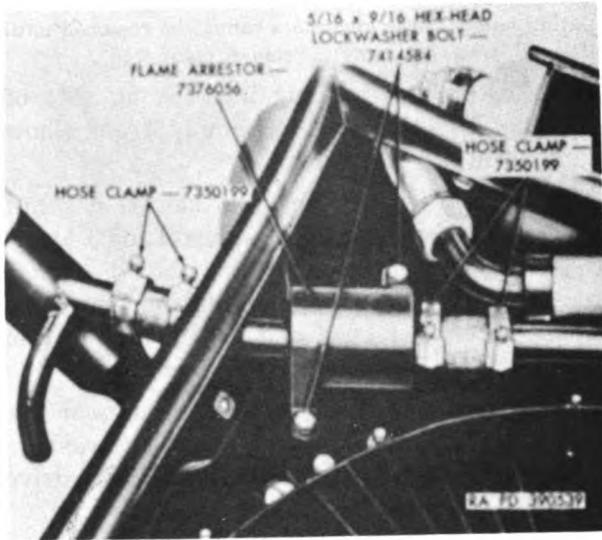

Figure 35. Flame arrester and breather tube disconnect points.
- (2) Loosen two hose clamps (fig. 35) securing crankcase air inlet breather tube to flame arrestor. Slide connecting hose from flame arrestor, remove hose, breather tube, and rubber grommet.
- (1) Remove two hex-head lockwasher bolts (fig. 35) securing flame arrester to engine shroud.
- (2) Loosen two hose clamps (fig. 35) securing flame arrester to oil filler tube and remove flame arrester.